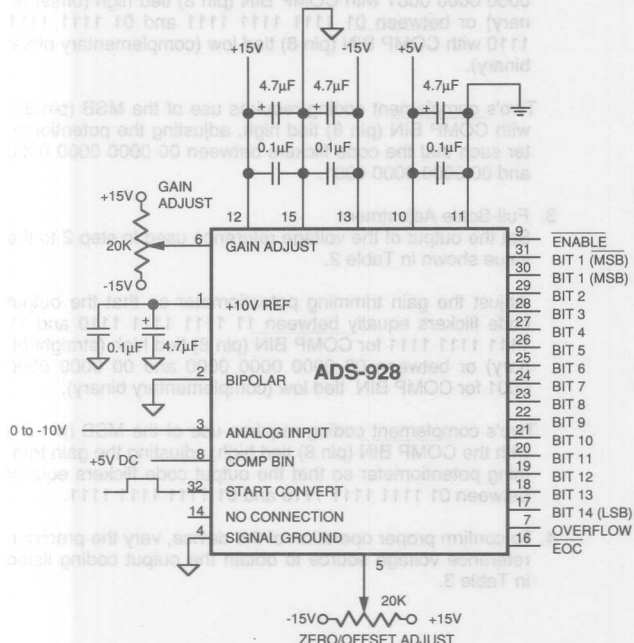

Figure 3. Typical ADS-928 Connection Diagram
1. Connect the converter per Figure 3, and Table 1 for the appropriate full-scale range (FSR). Apply a pulse of 200 nanoseconds minimum to the START CONVERT input (pin 32) at a rate of 200 KHz. This rate is chosen to reduce flicker if LED's are used on the outputs for calibration purposes.